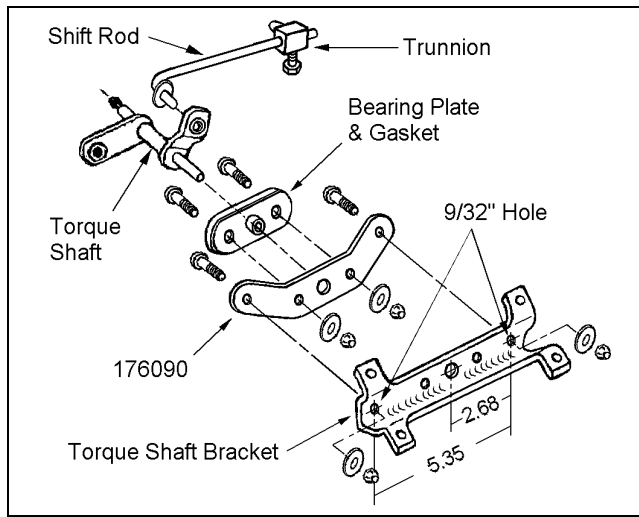

Figure 20
- 4) Attach the bearing plate (with gasket) to shift relocating bracket 176090 as shown in figure 20.
- 5) Using bracket 176090 as a template, mark the two mounting holes locations on the torque shaft bracket. See figure 20. Drill a 9/32" hole at each location.
6) Attach the shift relocating bracket 176090 to the torque shaft bracket with the hardware from kit 860160. See figure 20.